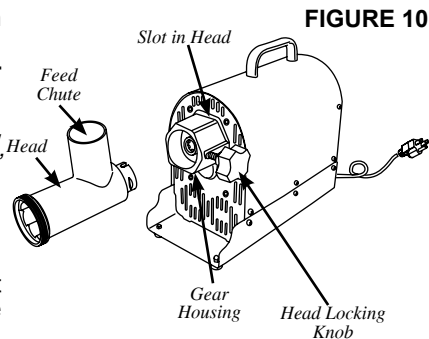

FIGURE 10
1. Insert the Head into the Gear Housing with the feed chute of the Head facing straight up. You will need to line up the slot in the Head with the Pin inside the Gear Housing. Be sure the Head is seated fully into the Gear Housing (Figure 10).